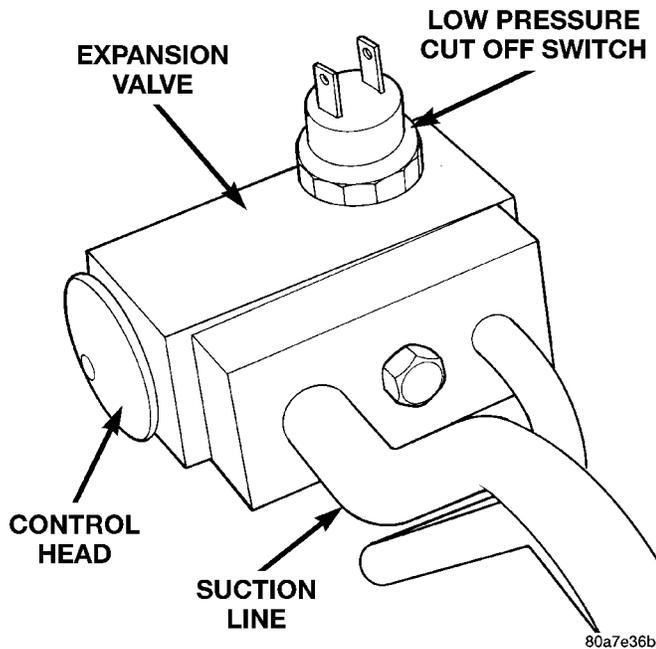

Fig. 13 Low Pressure Cut-Off Switch
(1) Connect a charging station or manifold gauge set to the refrigerant system service ports.
(2) Disconnect wire connector at low pressure cut-off switch (Fig. 13). Using a jumper wire, jump terminals inside wire connector boot.
(7) If suction side low pressure is within specified range, freeze the expansion valve control head (Fig. 13) for 30 seconds. Use a super cold substance (liquid CO₂). **Do not spray refrigerant on the expansion valve for this test.** Suction side low pressure should drop to 34.5 kPa (5 psi) If not, replace expansion valve.
(8) Allow expansion valve to thaw. The low pressure gauge reading should stabilize at 103 to 241 kPa (15 to 35 psi). If not, replace expansion valve.
(9) When expansion valve test is complete, test A/C overall performance. Refer to the Heater and A/C Performance Test in this section. Remove all test equipment before returning vehicle to use.